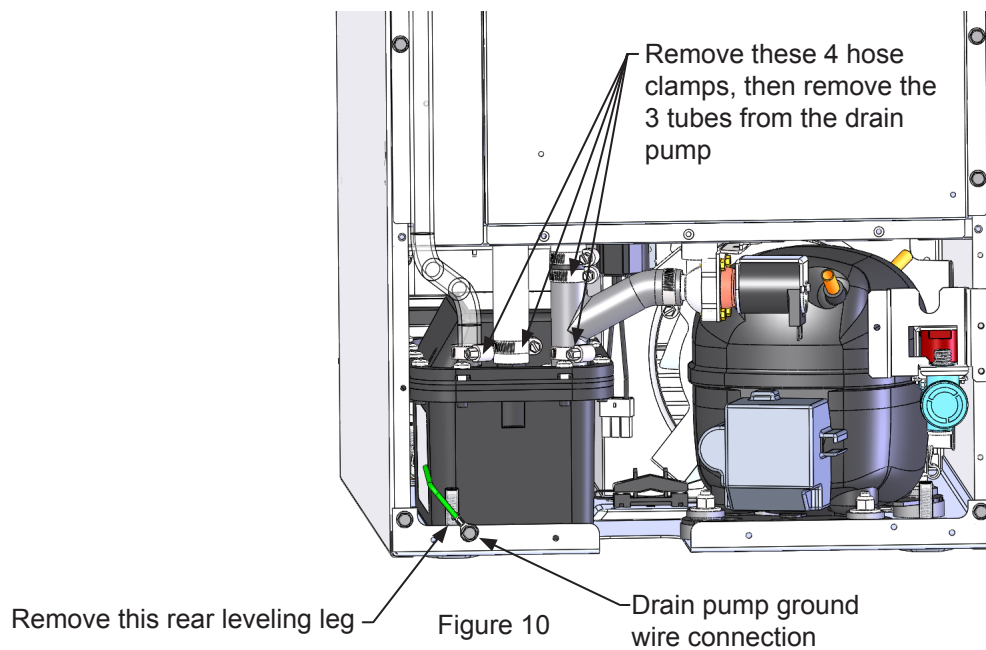

Figure 10
- 3) Remove the 4 hose clamps from the drain pump and remove the 3 tubes from the drain pump. See Figure 10.
- 4) Remove the leveling leg in the left back corner. See Figure 10.
5) Unfasten the drain pump ground wire connection, see Figure 10, and remove the drain pump from the ice machine, (See Figure 10).